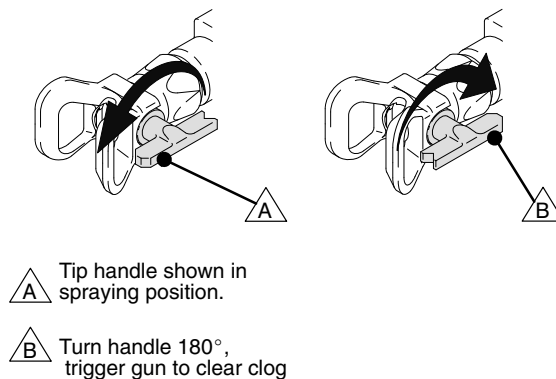

Fig. 7
The tip guard alerts you to the risk and helps prevent placing any part of the body close to the spray tip. The tip guard also adjusts the vertical or horizontal spray pattern. See page 10. The tip guard holds a reversing spray tip. The tip is in the spraying position when the tip handle (B) points forward. See Fig. 7.
1. Release the gun trigger. Engage the gun safety latch. Rotate the RAC IV tip handle 180°. See Fig. 7.
3. Engage the gun safety latch. Rotate the tip handle (B) to the spraying position.